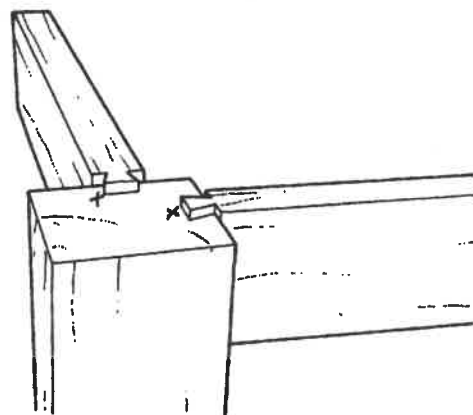

Fig. E-11
16. Fit the rails in the leg, as illustrated in Fig. E-11. Notice that the two rails are not flush with the top of the leg.